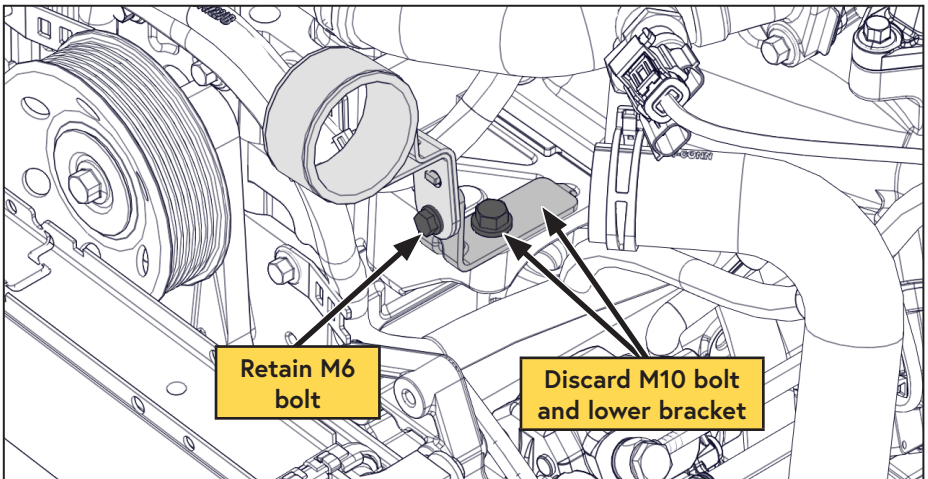

Figure 6 — Radiator hose support bracket
- Remove the engine mounted portion of the upper radiator hose support bracket. Discard the M10 mounting bolt and the lower part of the bracket but retain the M6 bolt for later in the installation (Figure 6).